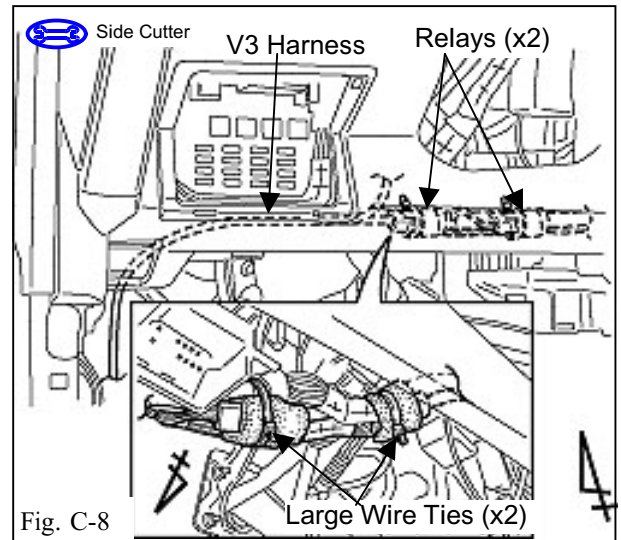

Fig. C-8
16. Route and attach the V3 harness' relays to the vehicle harness with two large wire ties. (Fig. C-8)